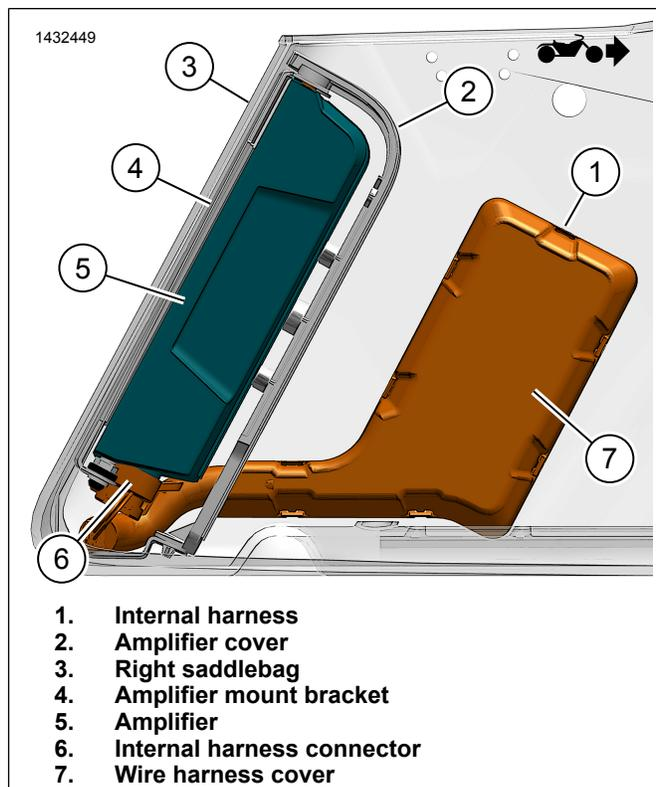

Figure 15. Saddlebag Harness with Amplifier
7. Figure 15 Install amplifier (5) into amplifier mount bracket (4).
8. Install amplifier cover (2).